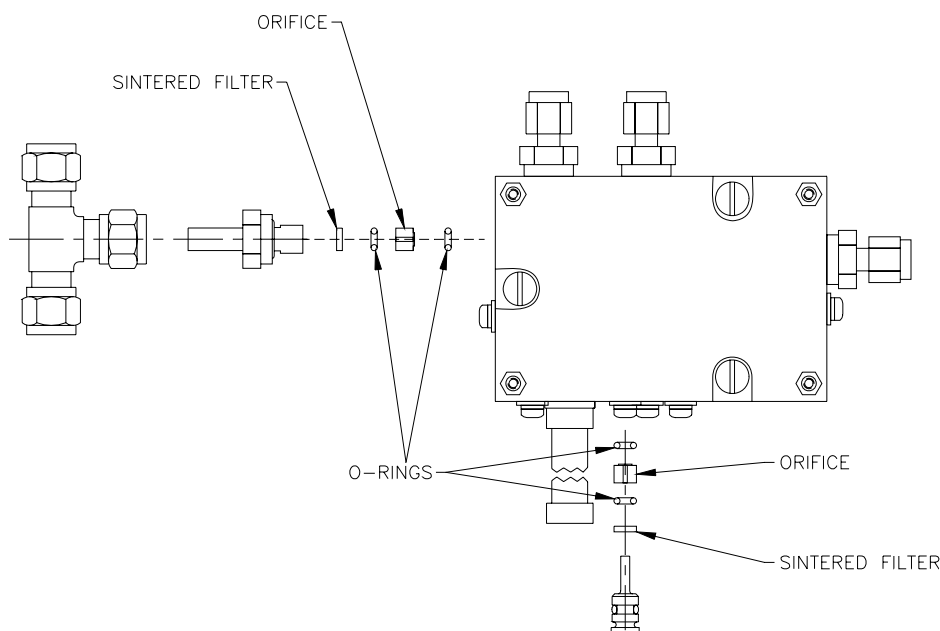

Figure 9. Sintered Filter/Orifice Removal
2. Remove the four screws securing the pressure PCA to the valve manifold and disconnect and remove the PCA. Refer to Figure 9.
4. Refer to Figure 9 for sintered filter locations in the manifold. Replace the sintered filters. If desired the orifices may be replaced, cleaned with alcohol or cleaned in an ultrasonic bath.